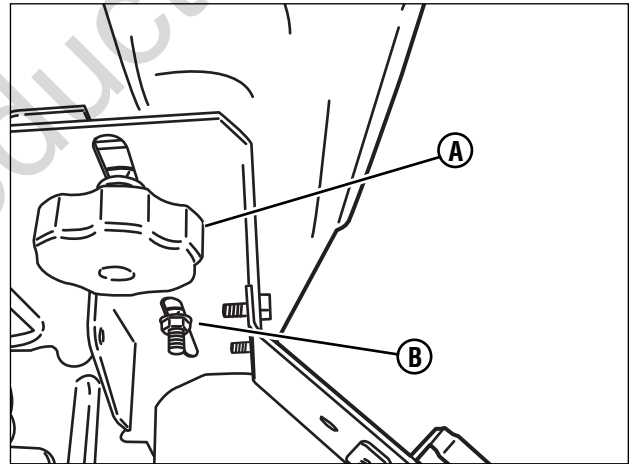

Figure 3: Operator seat adjustment
4. Adjust the seat (**A, Figure 3**) as needed to the most comfortable position. Refer to the Section entitled "OPERATOR'S SEAT ADJUSTMENT".
1. With the engine stopped, loosen the two adjusting knobs (**A, Figure 3**) and move the seat to the desired position. After adjustment, tighten the knobs securely.